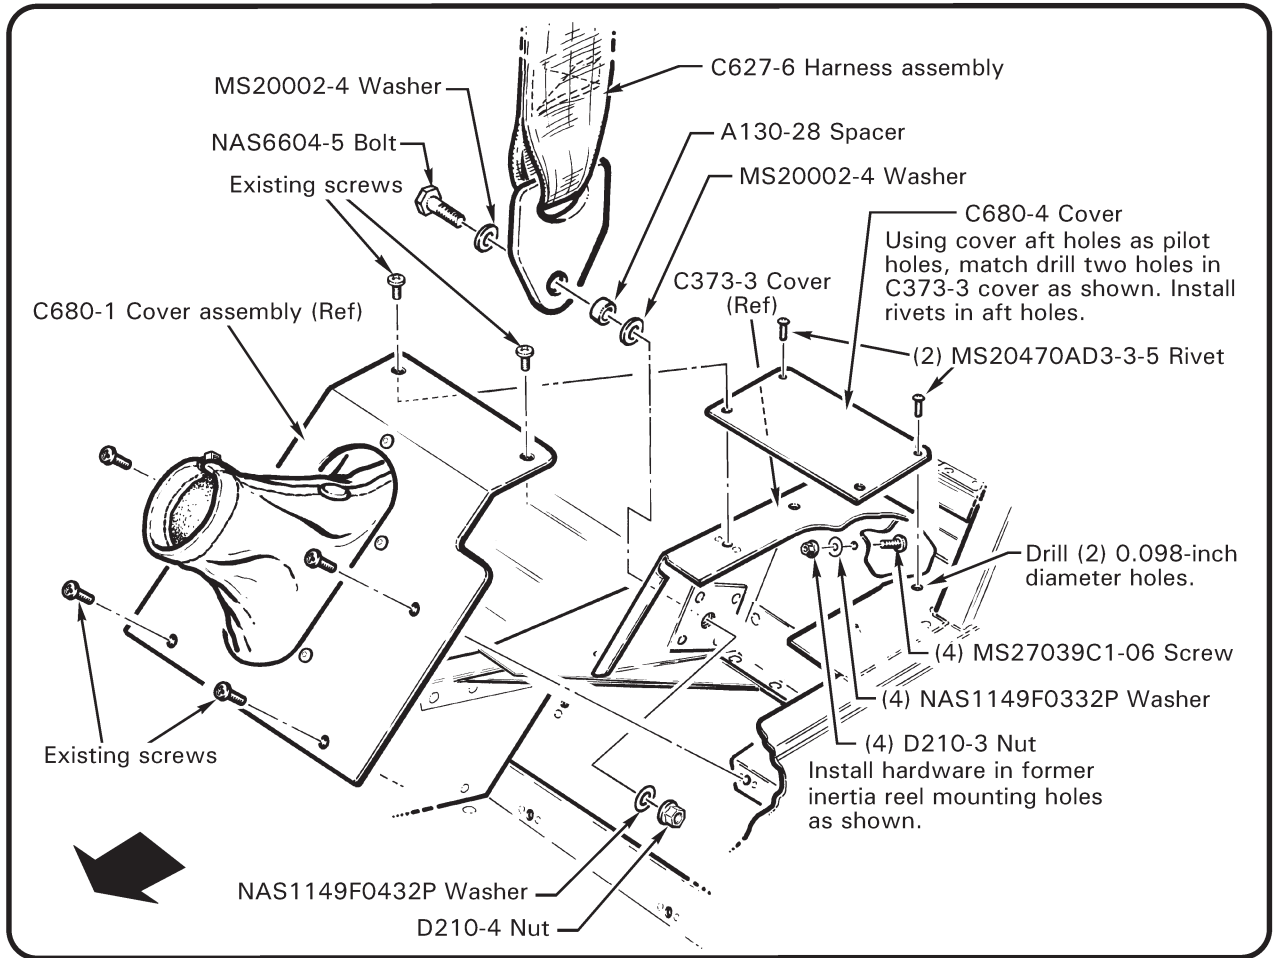

FIGURE 1
- ii. Refer to Figure 1. Temporarily install existing screws in C680-4 cover’s forward holes and secure to C373-3 cover. Using C680-4 cover aft holes as pilot holes, drill (2) 0.098-inch diameter holes thru C373-3 cover as shown. Deburr holes & clean up debris. Install (2) MS20470AD3-3.5S rivets in C680-4 cover aft holes and C373-3 cover’s drilled holes. Remove forward screws and verify cover security.
9. Refer to Figure 1. Install hardware securing harness lap belts to inboard and outboard anchors as shown. Standard torque fasteners per MM § 23-32 and torque stripe per MM Figure 2-1. Install C680-1 (removable collective) cover assembly.